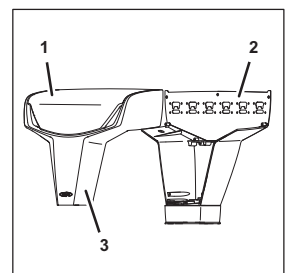

Fig. 44
2. Lift and remove the front panel (Fig. 44/3) with hood (Fig. 44/1) from the rear panel (Fig. 44/2) in a forward motion.
7. Position the front panel (Fig. 44/3) with hood (Fig. 44/1) on the rear panel (Fig. 44/2).